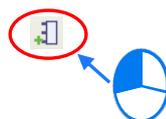

Figure 12-14 Clicking **Add Pin** on the PMSoft toolbar
- The users have to click  on the PMSoft toolbar, as shown in figure 12-14.